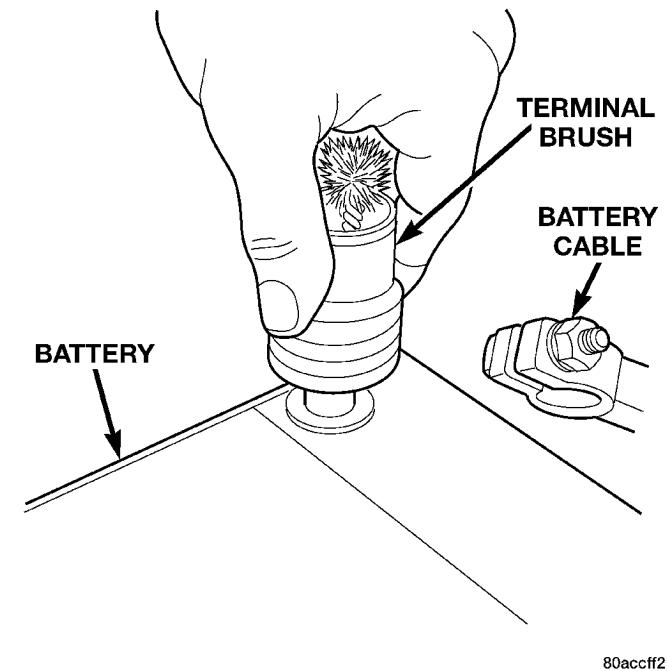

Fig. 20 Clean Battery Terminal Post - Typical
(10) Clean any corrosion from the battery terminal posts with a wire brush or a post and terminal cleaner, and a sodium bicarbonate (baking soda) and warm water cleaning solution (Fig. 20).